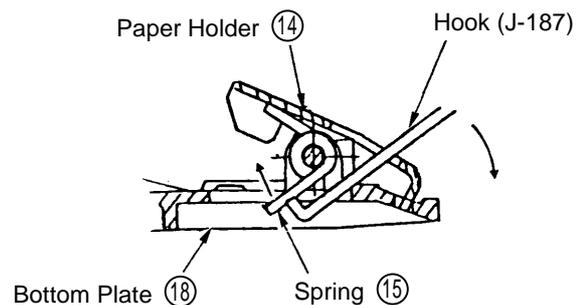

Fig. 9
- D. Finally, insert a J-187 Hook (special Repair Tool, Code No. 970968) through the Paper Holder (14) hole and into the elongated hole of the Bottom Plate (18). Then, as illustrated in Fig. 9, pry the projecting coil of the Spring (15) upward and over so that it hooks onto the projection provided on the Bottom Plate (18), and fixes the Spring (15) in position.
- (2) Reassembly of the Balance Weight Section: